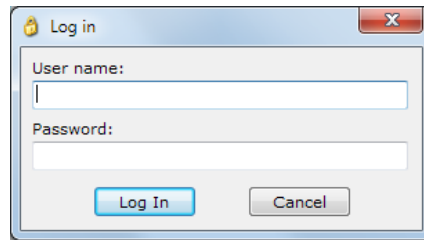

Figure 47-1. Login Screen
1. Use the Settings Explorer in BESTCOMSP*lus* to select Username Setup under General Settings, Device Security Setup. The Login dialog box appears. See Figure 47-1. An administrator access level is required to set up usernames and passwords.
2. The Login dialog box pops up. See Figure 47-1. An administrator access level is required to set up port access. Enter the username and password of the administrator and then click the Log In button. The default administrator username is “A” and the default Password is “A”.